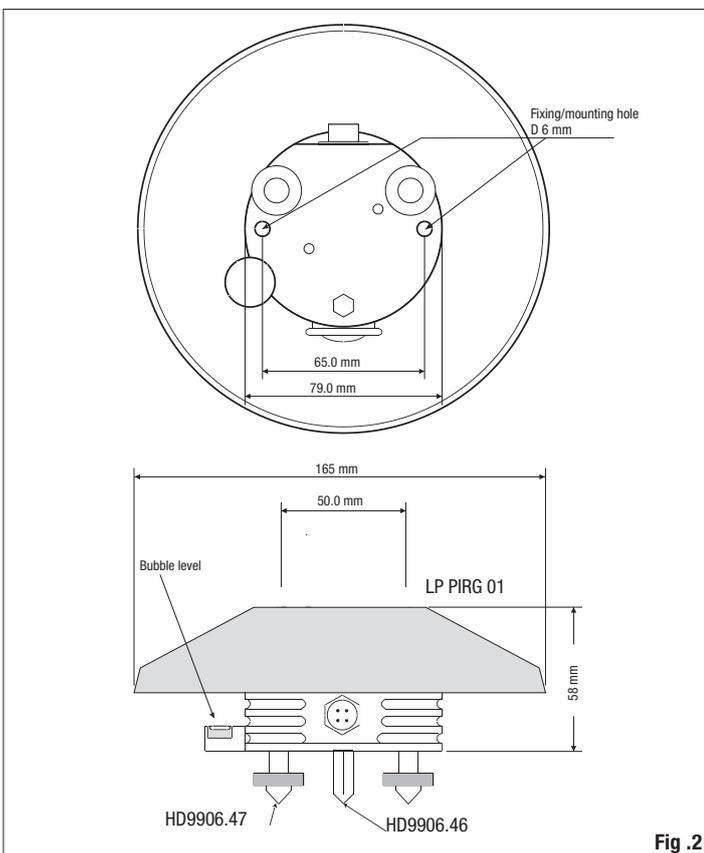

Fig. 2
- For an accurate horizontal positioning, the pyrgometer LP PIRG 01 is equipped with a spirit level, which adjustment is by two screws with lock nut that allows changing the pyrgometer inclination. The fixing on a flat base can be performed by using two 6mm diam. holes and 65 mm wheelbase. In order to access the holes, remove the screen and re-place it back after mounting, see figure 2.
Dimensions:	figure 2